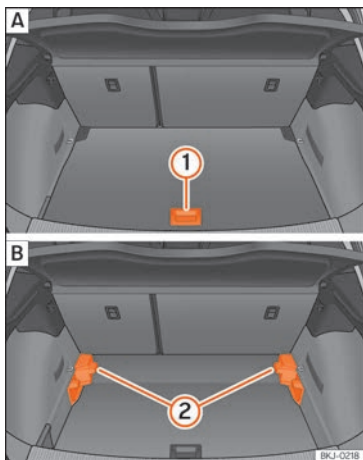

Fig. 138 Variable luggage compartment floor:
- To move from the low position to the high position, lift the floor using the handle »» Fig. 138 (1), and pull it back until the front of the floor has fully passed the supports (2).
- Move the floor forward over the supports as far as the rear seat backrest and then lower the floor with the handle (1).
- To move from the high position to the low position, lift the floor using the handle »» Fig. 138 (1), and pull it back until the front of the floor has fully passed the supports (2).
- Now let the front part fall to the floor and slide the floor forwards as far as the rear seat backrest; lower the floor at the same time with the handle (1).
- Lift the variable floor in the high position using handle »» Fig. 138 (1), pull it up and push it towards the backrest of the rear seats until it folds along the hinge line and the movable part of the floor is resting on itself.